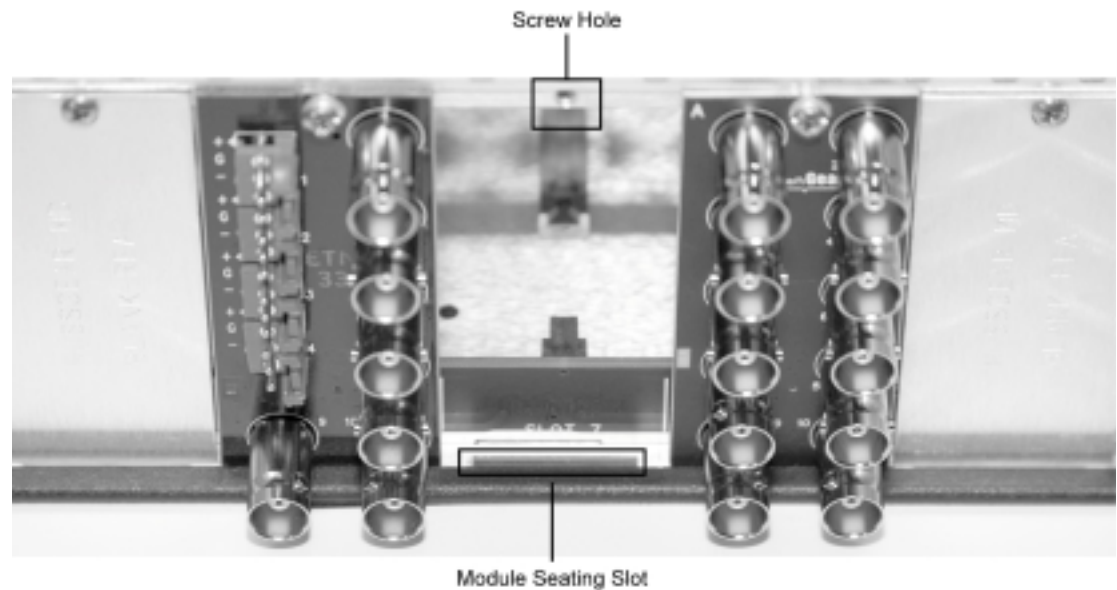

Figure 2. Rear Module Installation
3. As shown in Figure 2, seat the bottom of the 8310-RM-10 in the seating slot at the base of the frame's back plane.